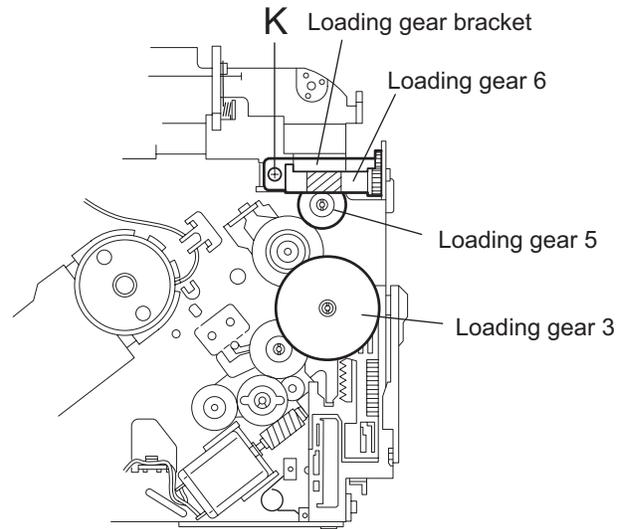
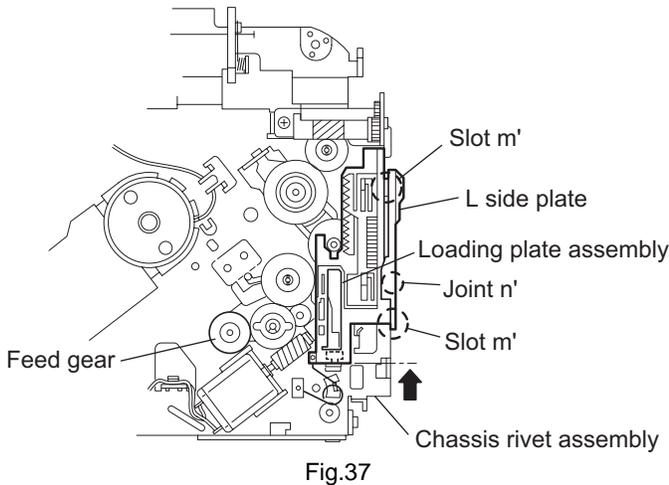
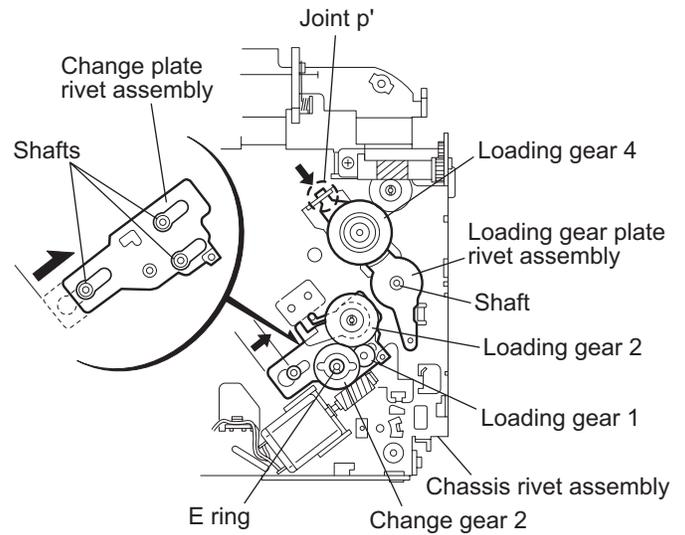

Fig.35
Fig.37
Fig.38
**(See Figs.35 and 36)**
- (1) Remove the screw **K** attaching the loading gear bracket.
### 3.2.17 Removing the gears (See Figs.37 to 40)
- Pull out the loading gear 3. (See Fig.35.)
- (1) Pull out the feed gear.
- (2) Move the loading plate assembly in the direction of the arrow to release the L side plate from the two slots m' of the chassis rivet assembly. (See Fig.37.)
- (3) Detach the loading plate assembly upward from the chassis rivet assembly while releasing the joint n'. Remove the slide hook and loading plate spring from the loading plate assembly.
- (4) Pull out the loading gear 2 and remove the change lock lever.
- (5) Remove the E ring and washer attaching the change gear 2.
- (6) The change gear 2, change gear spring and adjusting washer come off.
- (7) Remove the loading gear 1.
- (8) Move the change plate rivet assembly in the direction of the arrow to release from the three shafts of the chassis rivet assembly upward. (See Fig.38.)
- (9) Detach the loading gear plate rivet assembly from the shaft of the chassis rivet assembly upward while releasing the joint p'. (See Figs.38 and 40.)
- (10) Pull out the loading gear 4.